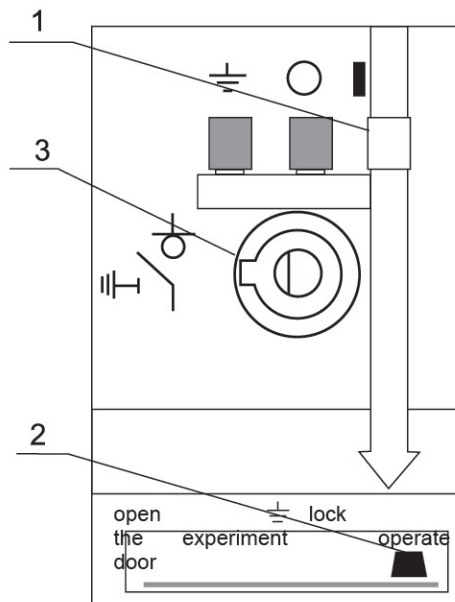

Figure 6
Place the load switch location indicator to the site shown in Figure6 (1), selector at site shown in Figure6 (2). Check the shaft which should be at site Figure6 (3). Insert the operation handle to the slot, then make the guidance key match the slot shafting, turn it with approximately 80 degrees clockwise until it is breaking.